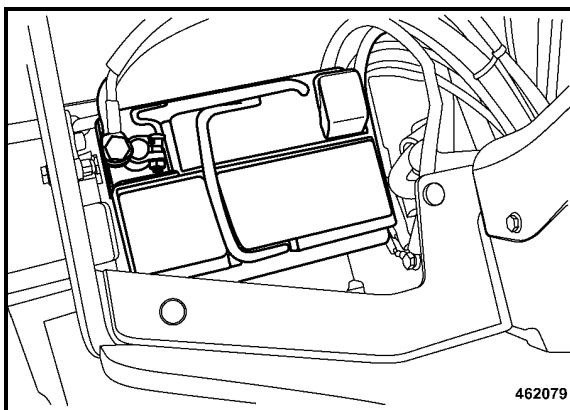

Fig. 140
- Clean battery (Fig. 140) and battery compartment.